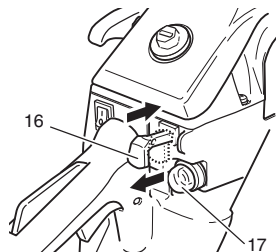

Fig. 12
2. Pull the choke lever (16) to choked position. (Fig. 12)
\*Push priming bulb (17) several times so that fuel flows through bulb into carburetor. (Fig. 12)
- When you hear first ignition, return the choke to run position. (Fig. 12)